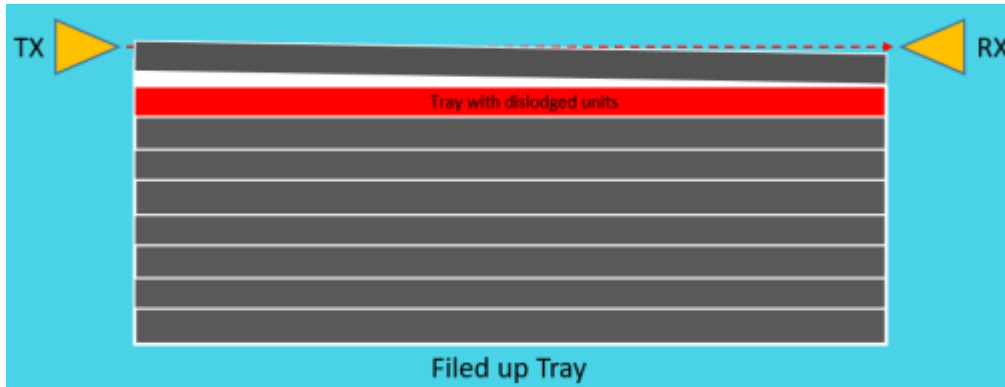

Fig. 8.0 TX to RX signal has been cut due to tray height variation.
- Figure 8.0 shows the scenario of dislodged units that contribute tray height variation. The TX signal towards RX was being blocked therefore no signal received by RX.